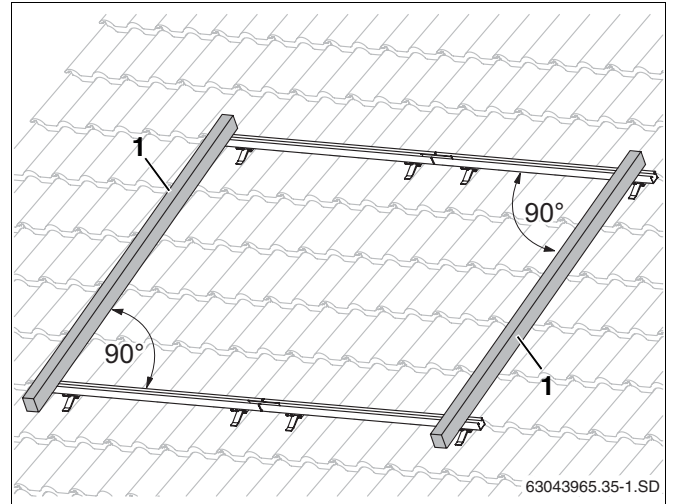

Fig. 33 Aligning the profile rails
- ▶ Align the upper and lower profile rails to the side flush with each other and level them (Fig. 33, use a spirit level)..
Measure the diagonals or place a roof batten (Fig. 33, **Item 1**), for example, at the ends of the profile rails. The angle between roof batten and profile rail must be 90°. Align the profile rails over the slotted holes.